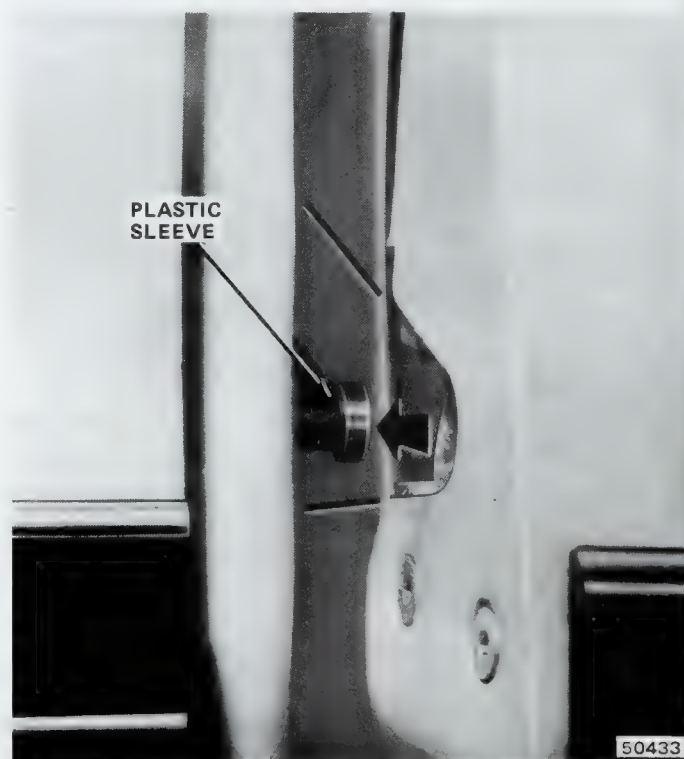

Fig. 3J-54 Lock Striker Alignment
- (1) Determine proper striker alignment (fig. 3J-54).